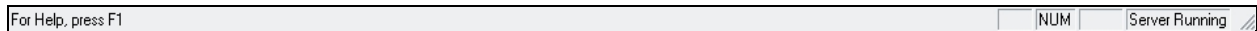

Figure 16. Status Bar
**Status Bar** - Use this command to display and hide the Status Bar. The status bar describes the action to be executed by the selected menu item or depressed toolbar button, and keyboard latch state. A check mark appears next to the menu item when the Status Bar is displayed. The server status is shown in the lower right corner of the status bar. Figure 16 below is an example of the status bar.